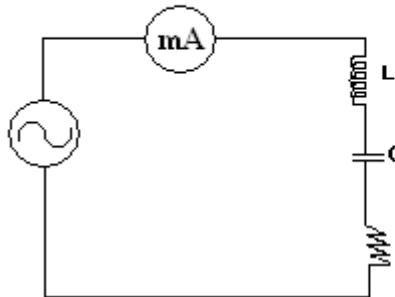

Fig 1: Series Resonance
- The circuit connections are made as shown in Fig 1.